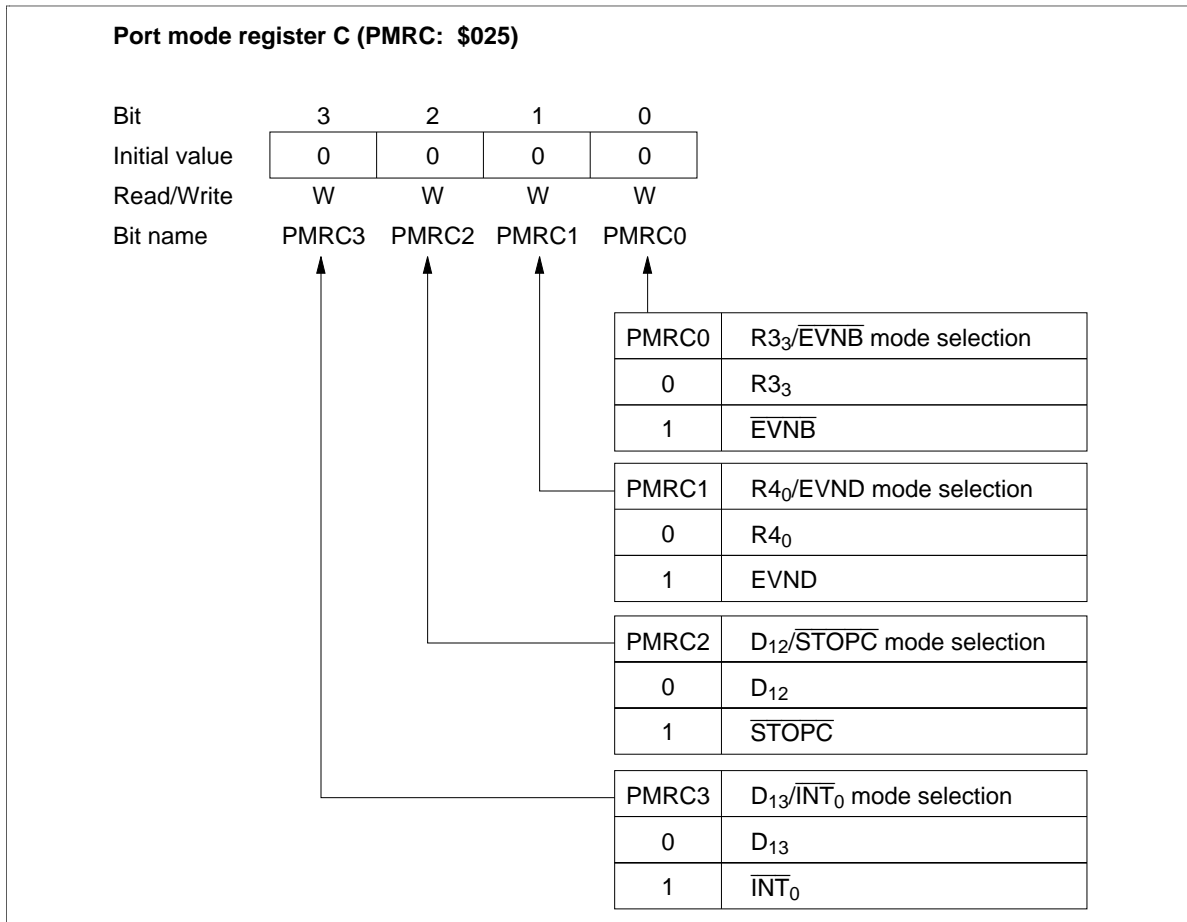

Figure 50 Port Mode Register C (PMRC)
- Port mode register C (PMRC: \$025): Write-only register that selects $R3_3/\overline{EVNB}$ pin function as shown in figure 50. It is reset to \$0 by MCU reset.